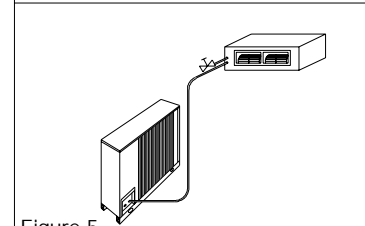

Figure 5
- To avoid fitting a drain trap, install a solenoid valve on the liquid line (see Figure 5); this is always recommended in any case.